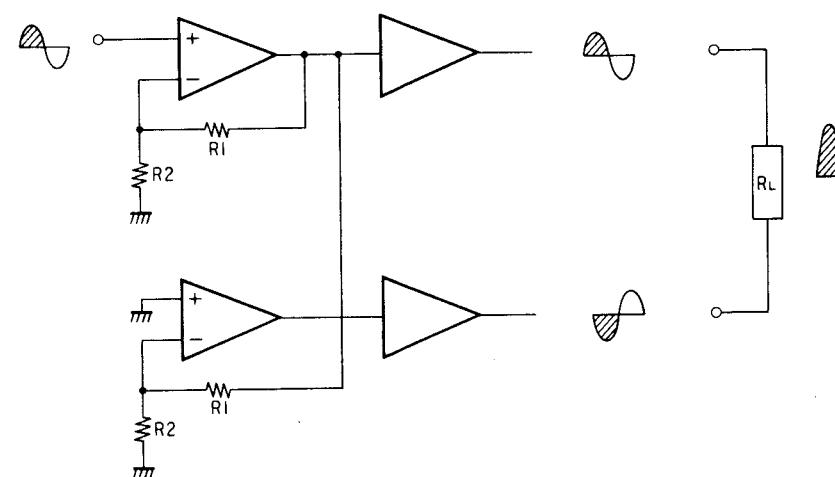

Figure 6
3. BTL (Balanced Transformerless) (See Figure 6)